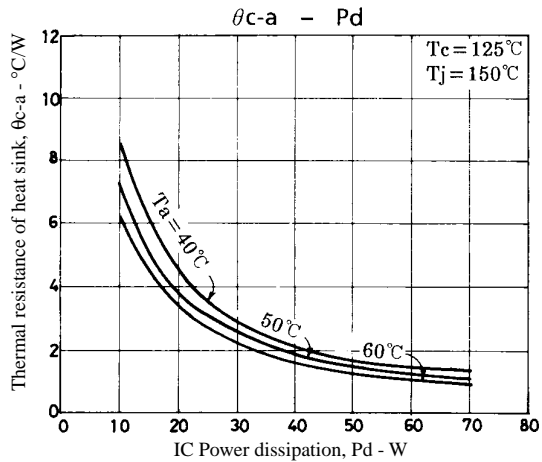

Figure 3. STK4181V θc-a - Pd
Figure 3 shows the relation between Pd and θc-a given from (1) and (3) with Ta as a parameter.
The thermal resistance of a heat sink is obtained from Figure 3.